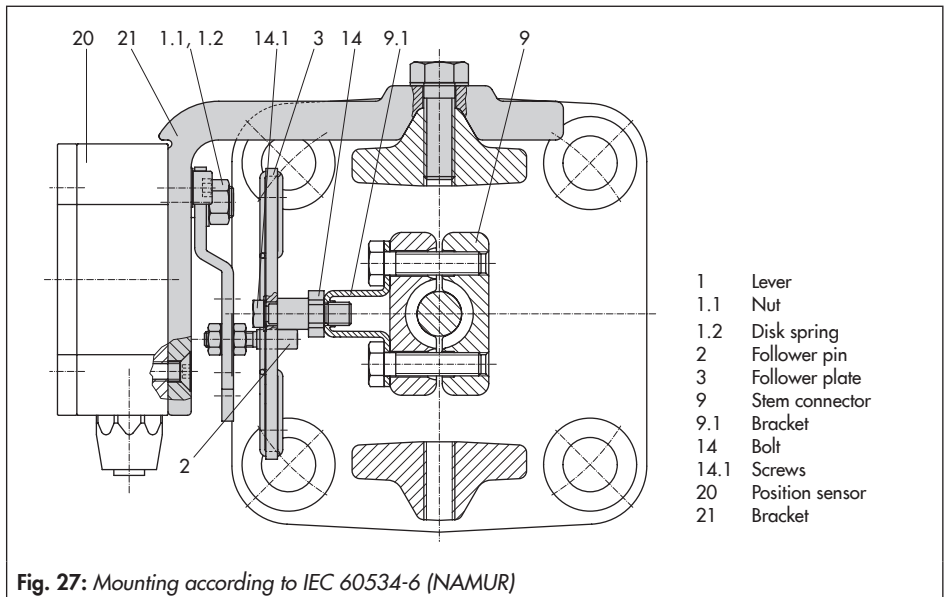

Fig. 27: Mounting according to IEC 60534-6 (NAMUR)
- Turn the connecting plate (9) so that the correct symbol for the fail-safe action "actuator stem extends" or "actuator stem retracts" is aligned with the marking (Fig. 27, below).
- Make absolutely sure that the gasket for the connecting plate (9) is correctly inserted.
- Refer to Fig. 27
1. Place the lever (1) on the position sensor in **mid-position** and **hold it in place**. Unthread the nut (1.1) and remove the lever together with the disk spring (1.2) from the sensor shaft.
2. Screw the position sensor (20) onto the bracket (21).